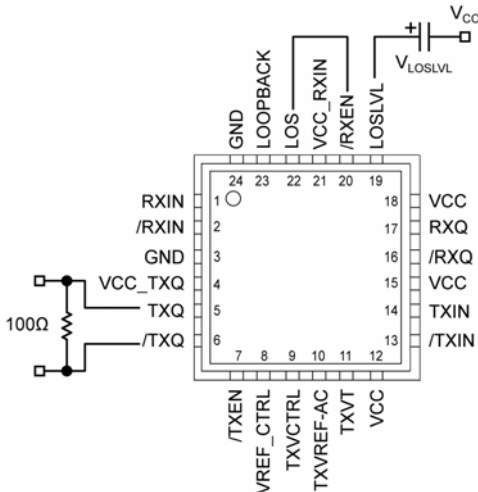

Figure 2a. Voltage Source Implementation
The SY58620L features a chatter-free Loss-of-Signal (LOS) TTL compatible output with an internal 4.75kΩ pull-up resistor. LOS circuitry monitors the input receiver signal and asserts a signal when the input signal falls below the threshold set by the programmable LOS level set pin (LOSLVL). When the amplitude of the receiver input signal falls below the threshold, LOS is asserted HIGH with a response time of ~0.2μs. LOS can be fed into /RXEN to maintain output stability by disabling the output during a Loss-of-Signal condition. Figure 2a and 2b shows the LOS connection to /RXEN. When /RXEN is HIGH, the output signal RXQ is held LOW and /RXQ is held HIGH. Typically, 2dB of LOS hysteresis is adequate to prevent the receiver output from chattering. LOS operation is optimized for data rates ≥622Mbps with an input receiver amplitude of at least 10mV (20mV_{PP}). Due to the long time constant in slower data rates below 622Mbps, the SY58620L LOS function does not guarantee chatter-free operation for low amplitude signals.
LOS detection trip-point by setting up a voltage divider between V_{CC} and V_{REF} (an internal voltage source set at $V_{CC}-1.3V$), since there is a $2.8k\Omega$ internal resistor connected between $LOSLVL$ and V_{REF} . The input voltage range of $LOSLVL$ ranges from V_{CC} to V_{REF} . See the “Functional Block Diagram” section and Figures 2a and 2b, to see how R_{LOSLVL} sets up a voltage divider between V_{CC} and V_{REF} . Refer to the “LOS Output DC Electrical Characteristics” table and “Typical Operating Characteristics” section to see how different R_{LOSLVL} values affect LOS sensitivity.
- Connecting the input $/RXEN$ to the LOS output as shown in Figures 2a and 2b, maintains receiver output stability under a Loss-of-Signal condition